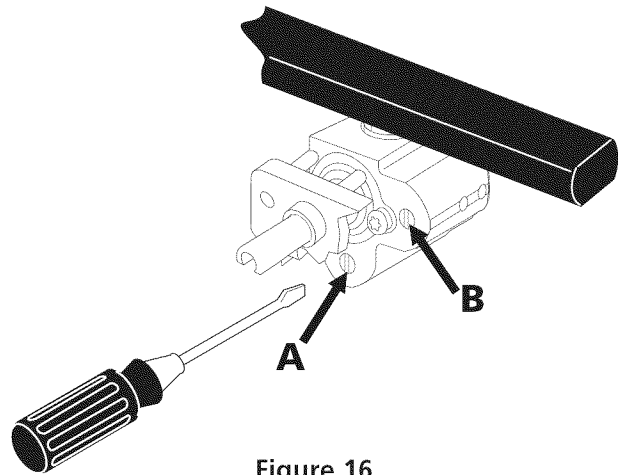

Figure 16
5. Adjust the "LOW" Setting of the Dual Burner (Bridge & Dual) Valve (Figure 16):
- The rear portion of the bridge burner flame size can be increased or decreased by turning screw **A** (see Figure 16). Use screw **B** to adjust the flame size of the center portion of the bridge or dual burner. Turn counterclockwise the screw to increase flame size. Turn clockwise the screw to decrease flame size. Adjust flame until you can quickly turn knob from LITE to LOWEST POSITION without extinguishing the flame. Flame should be as small as possible without going out.